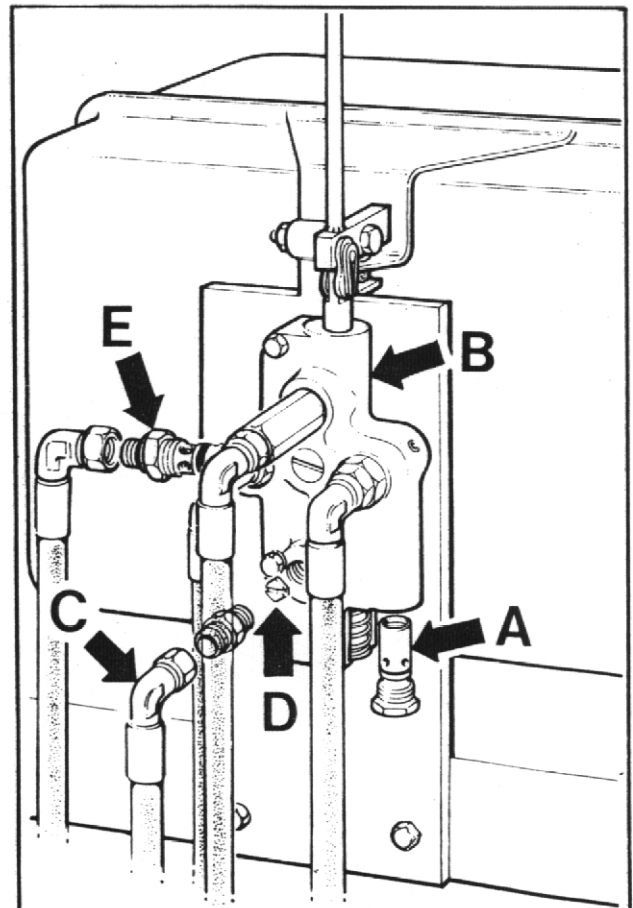

FIG. 10
4. Remove relief valve cartridge (A) (hexagon head) from the bottom of the control valve (B) (See fig. 10) and replace with a new one.
6. Remove relief valve cartridge (A) (hexagon head) from the bottom of the control valve (B) (See fig. 10) and replace with a new one.
7. Replace flow control valve (E) (See fig. 10)